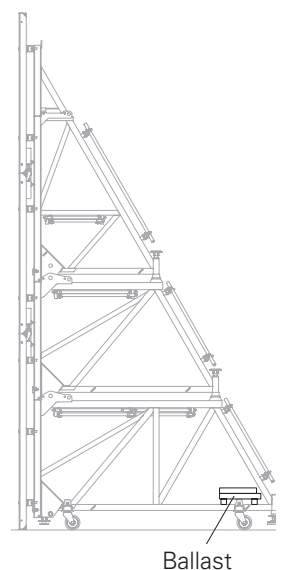

Fig. B4.06
- If necessary, take additional ballast into account. (Fig. B4.06)